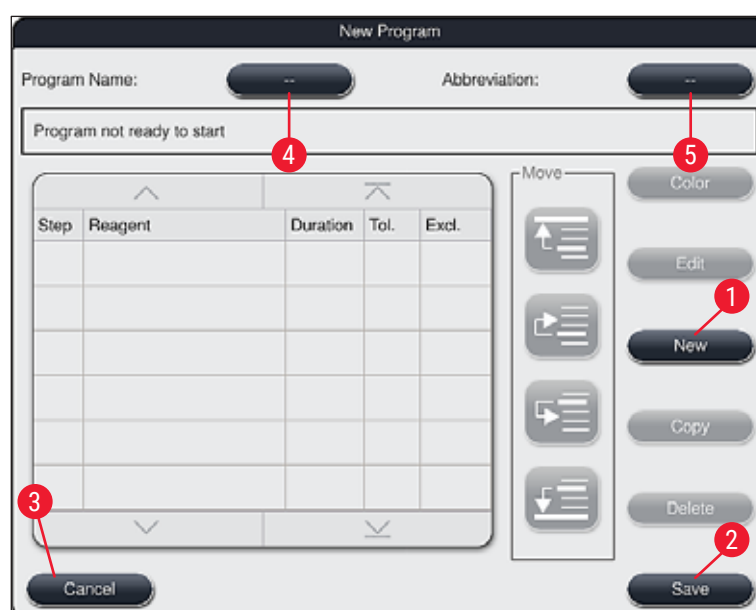

Fig. 46
- A new program window opens (→ "Fig. 46").
- It opens the entry window (→ "Fig. 46") for the new program to be created.